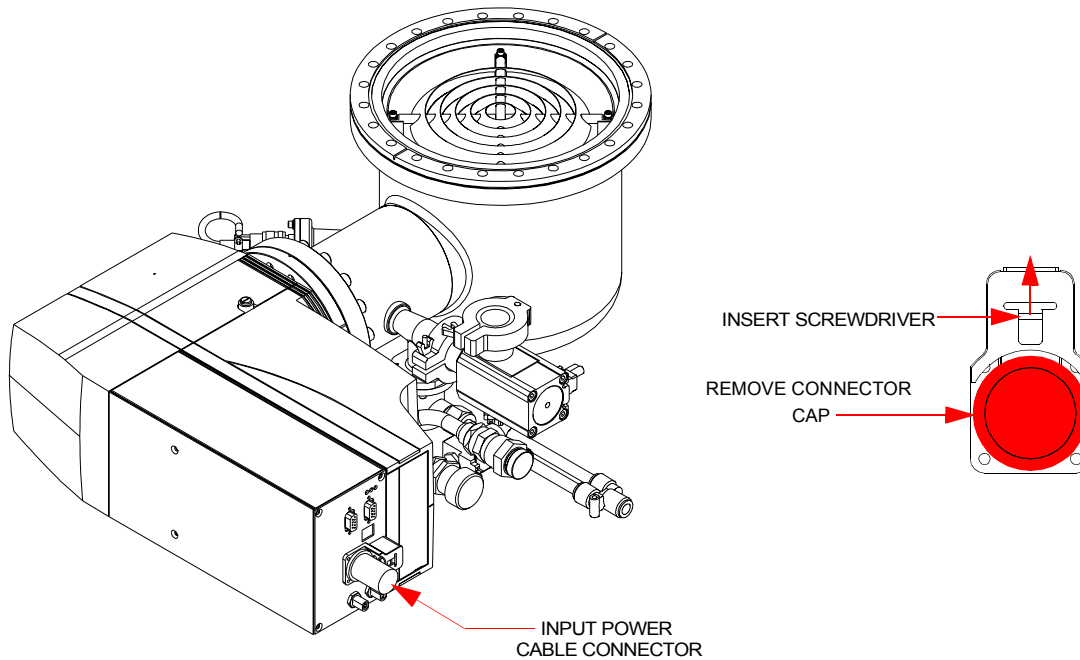

Figure 2-8: Input Power Cable Connection
1. Insert a flat blade screw driver into the input power connector on the On-Board *IS* Cryopump Module as shown in Figure 2-8 .
2. Lift the locking tab in the direction of the arrow shown in Figure 2-8 and remove the power connector cap.